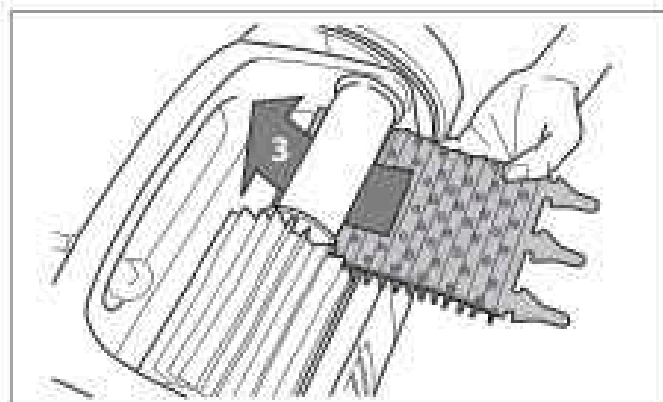

Figure 28. Install the New Brush
3. To install the new brush, position the new brush on the roller with the cleaning blades facing away from the roller (Figure 28).